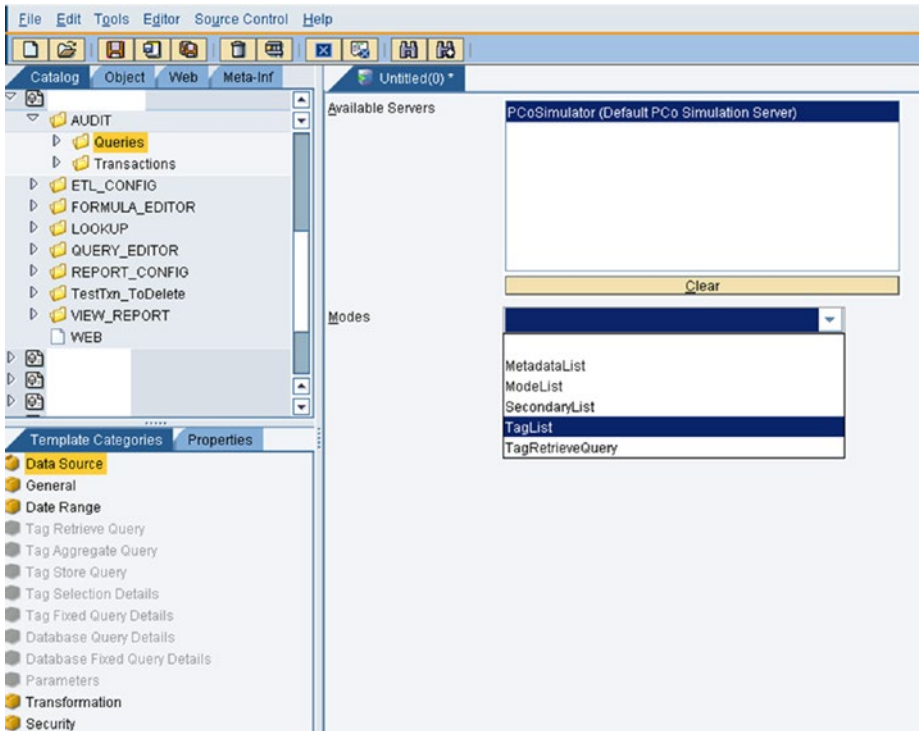

Figure 6-26. Data source screen in the PCo Query template
2. Select a server from the list of available servers from the data source screen, as shown in Figure 6-26.